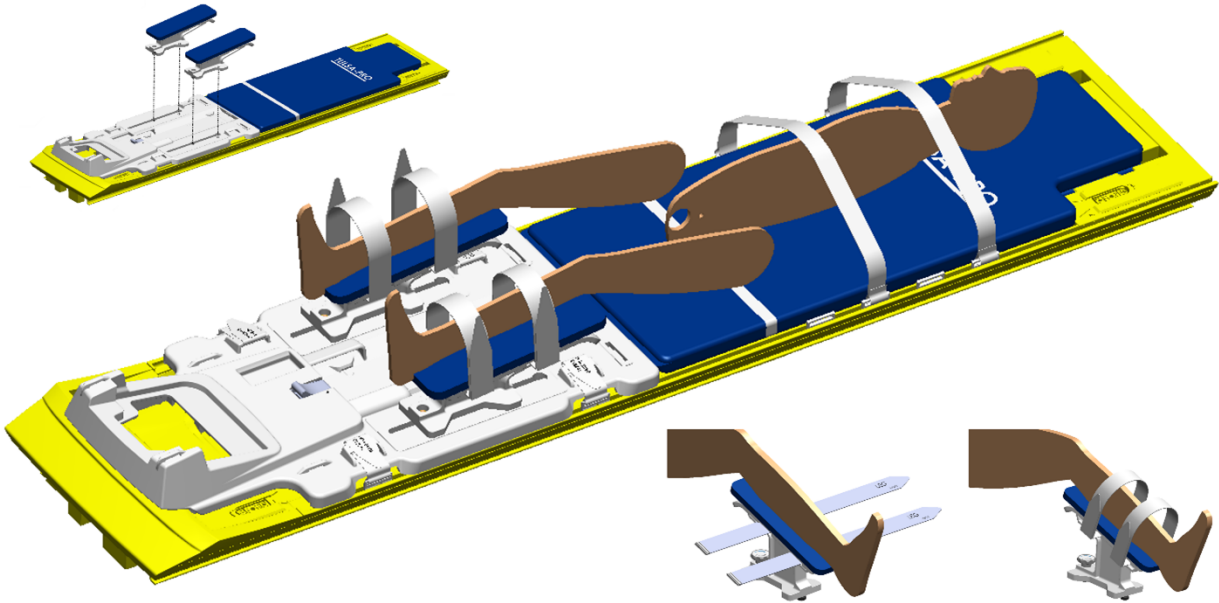

Figure 17: Initial patient positioning and attachment of leg supports
4. Have an assistant lift the patient's legs one at a time while you set up the leg supports (*Figure 17*):